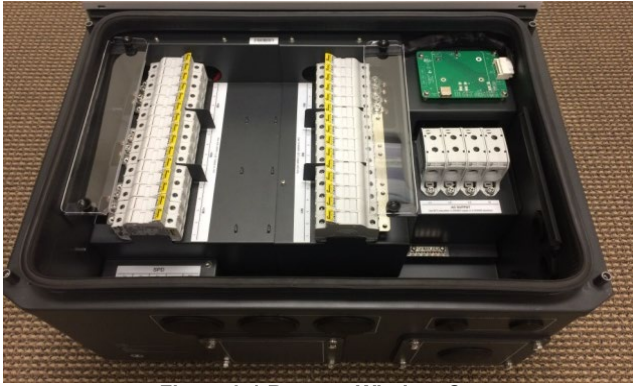

Figure 9-1 Remove Wirebox Cover
2. Remove the wiring box cover (Figure 9-1).